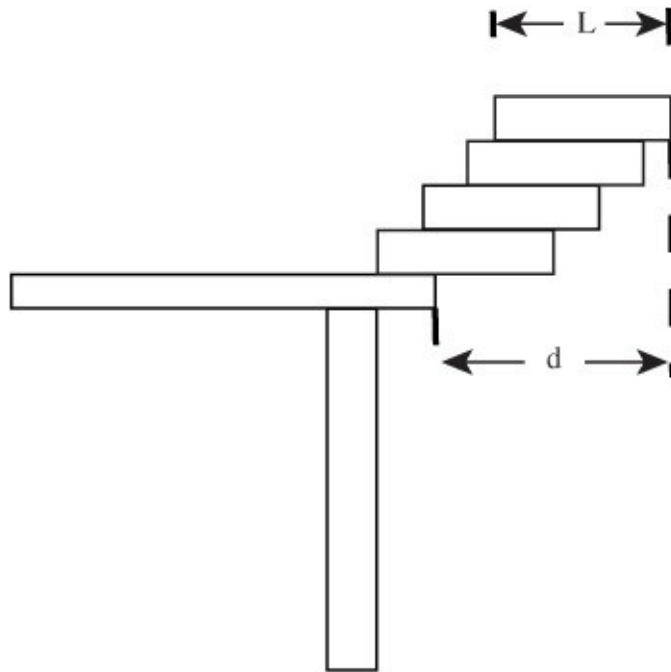

Figure 46-1 *How far can the books extend beyond the edge of the table?*
1. Before you start, state your prediction. How far beyond the edge of the table will the four books go, so they balance without falling? See Figure 46-1.